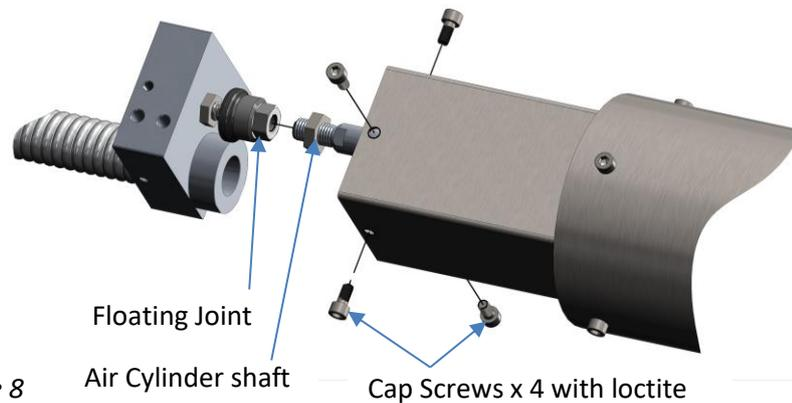

Figure 8
- Remove the 4 cap screws that secure the Spring Block into the Inner Tube. See Figure 8.
- Unscrew the Air Cylinder shaft from the Floating Joint. See Figure 8.
- Refit Cylinder shaft to Floating joint using medium strength Loctite. See Figure 8.
- Refit Spring Block into Inner Tube using medium strength Loctite. See Figure 8.